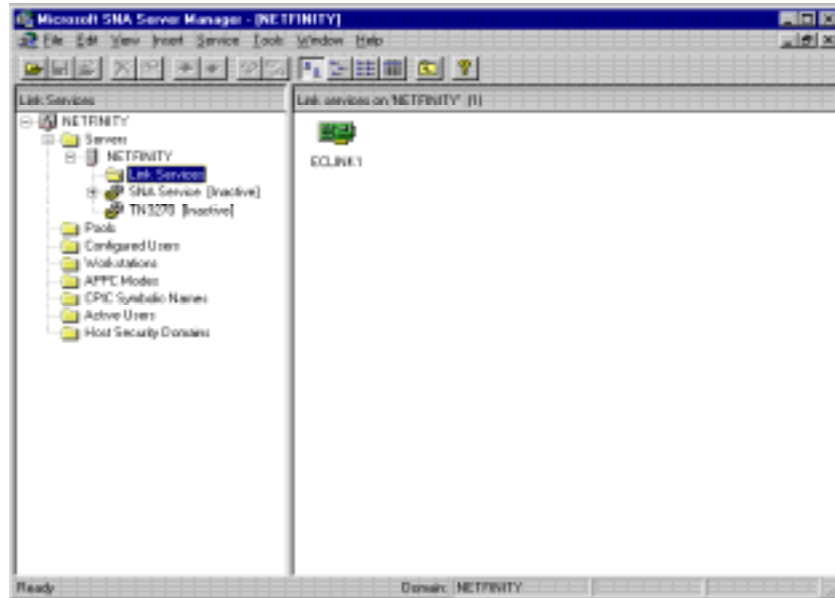

Figure 8-10. ESCON Link Service
1. Start SNA Server Manager from Windows NT. If you open the **Link Services** folder you will notice the link service created by the previous procedure (Figure 8-10).